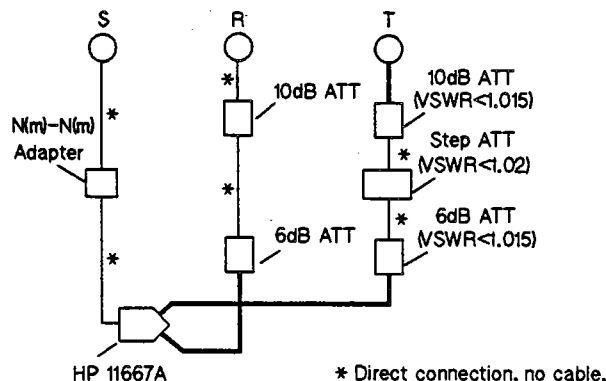

Figure 2-18. Magnitude Ratio/Phase Dynamic Accuracy Test Setup (2 of 2)
12. Swap the cables connected to the HP 4195A **INPUTs**, as shown in Figure 2-18, and repeat steps 4 and 5 (THRU CAL).